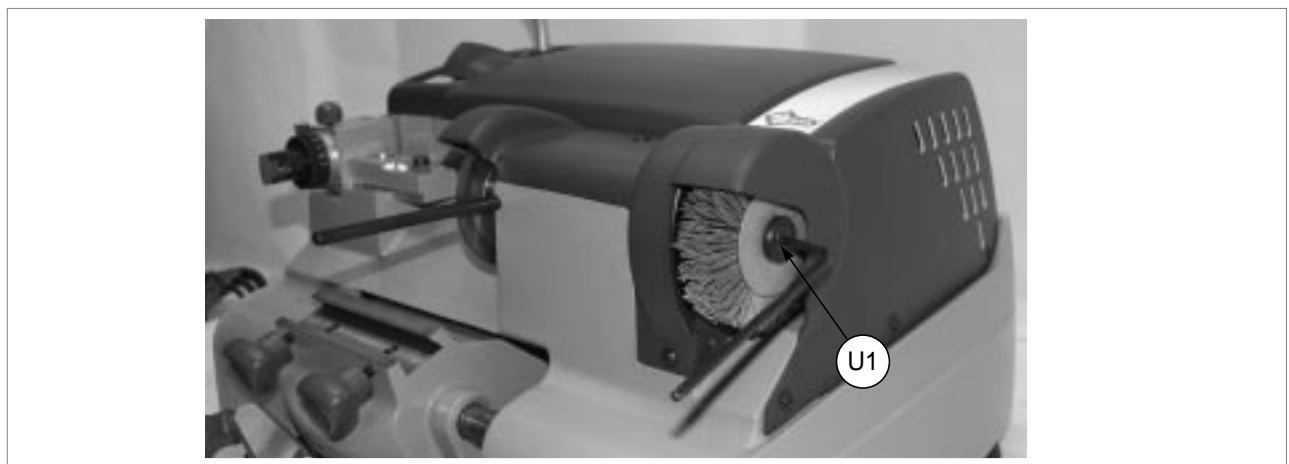

Fig. 25
- 2) Place the locking bar into the special hole in the cutter shaft (fig. 25).
- 3) Use the Allen wrench to loosen the screw (U1) holding the brush in place (fig. 25).